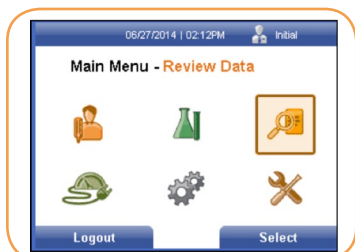

FIGURE 68
1. From the Main Menu, select the Review Data icon by using the [↓] or [↑] or [←] or [→] keys to highlight/select it (Figure 68).